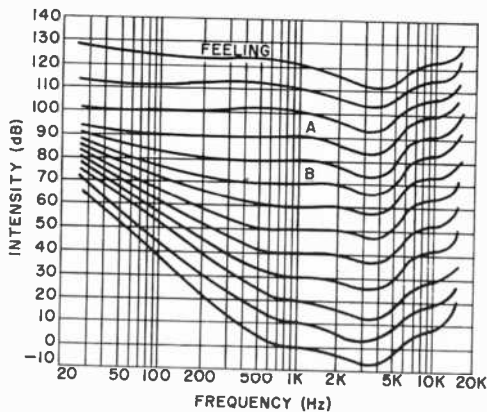

Fig. 1. Fletcher-Munson equal loudness curves pertain to human hearing.
3. *The Fletcher-Munson curves (see Fig. 1) show that the ear is less sensitive to the bass than it is to the midrange audio frequencies. Hence, loudspeakers should boost bass to make up for the characteristic.*
Fallacy: If we listen to reproduced sound at the same loudness level as that of the original, the frequency response should be flat. But a lower loudness level alters tonal balance as shown in Fig. 1. Suppose the original sound was at level A where the ear requires 2 dB more power at 50 Hz than at 1000 Hz for a given loudness sensation. If the reproduced sound level were at B, 50 Hz requires 12 dB more power than 1000 Hz for equal loudness. There is now a deficiency of 10 dB, and the reproduction appears to be deficient in bass response. To restore tonal balance, 50 Hz must be boosted 10 dB as with a compensated loudness network. Since the amount of boost required is dependent on the volume level, the loudness compensation network should not be built into the loudspeaker where it would have a fixed characteristic. Also, loudspeakers should not be compensated to make up